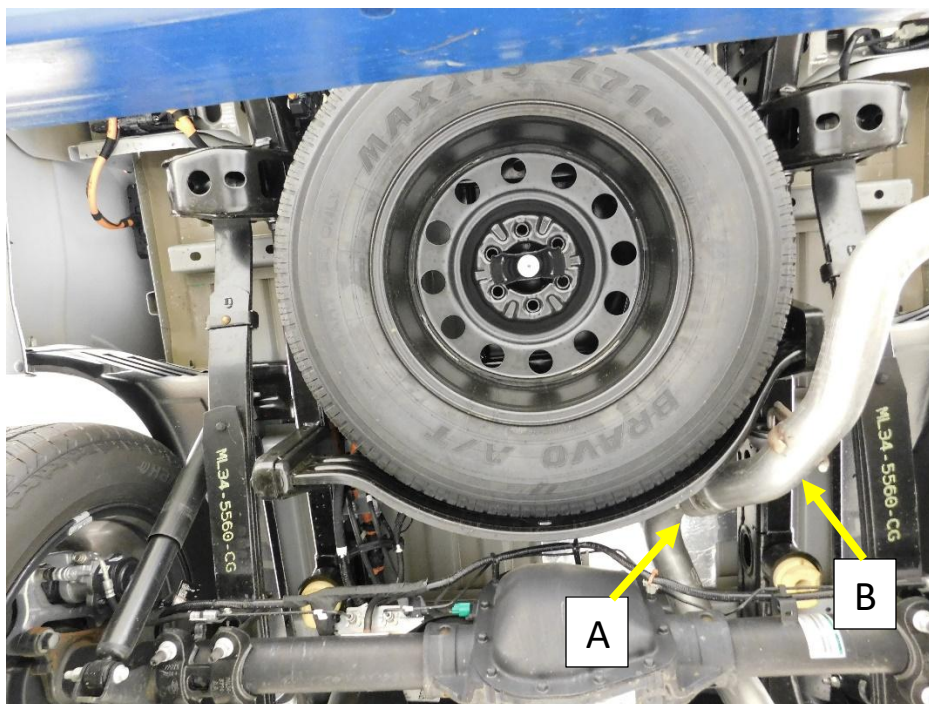

Figure.1
2. Loosen the 15mm Nut on the band clamp (A) just over the axle on the tail pipe. **Fig.1**
3. Remove the x2 Bolts from the frame hanger assembly (B). **Fig.1**